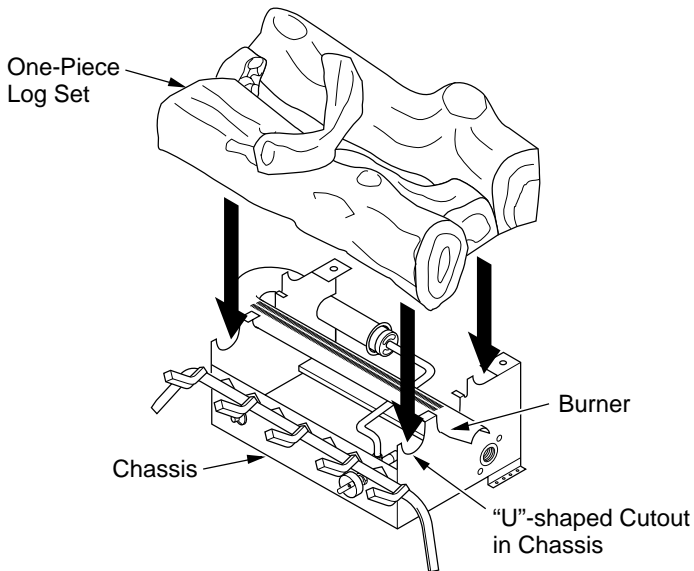
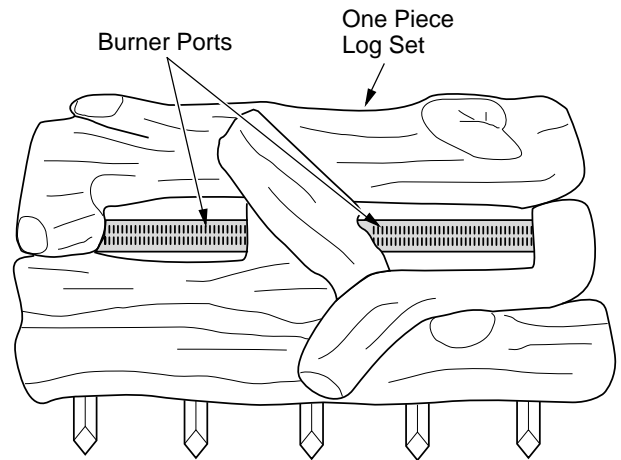
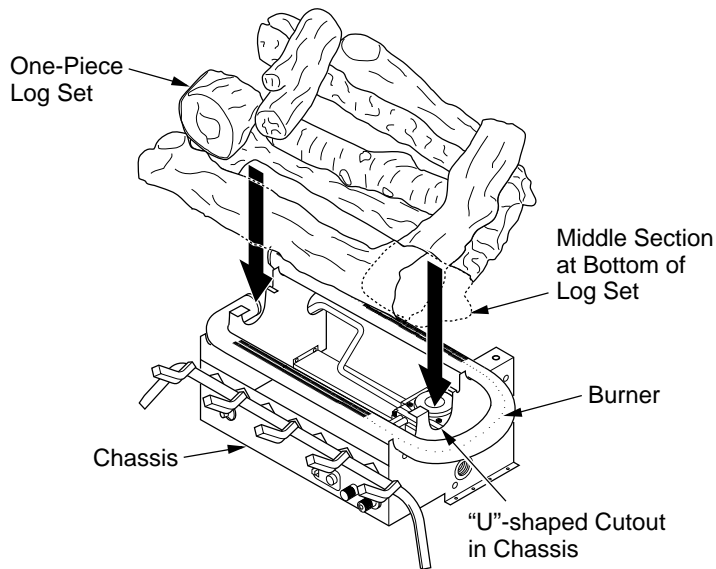

Figure 22 - Installing Vintage Oak One-Piece Log Set
Figure 24 - Installing Vintage Oak One-Piece Log Set (Top View)
Figure 23 - Installing Golden Oak or Birch One-Piece Log Set
1. Place one-piece log set on grate to fit as illustrated in Figure 22 on page 16 for Vintage Oak models and Figure 23 on page 16 for Golden Oak or Birch models. For Vintage Oak models make sure bottom of front log is in front of “U”-shaped cutout in center of chassis (see Figure 22, page 16). For Golden Oak or Birch models make sure middle section at bottom of log set is seated into “U”-shaped cutout in center of chassis (see Figure 23, page 16). *Note:* 36" and birch models have more features but fit on the chassis the same. Log will fit securely on chassis. **IMPORTANT:** Make sure log does not cover any burner ports (see Figures 24 or 25, page 16).